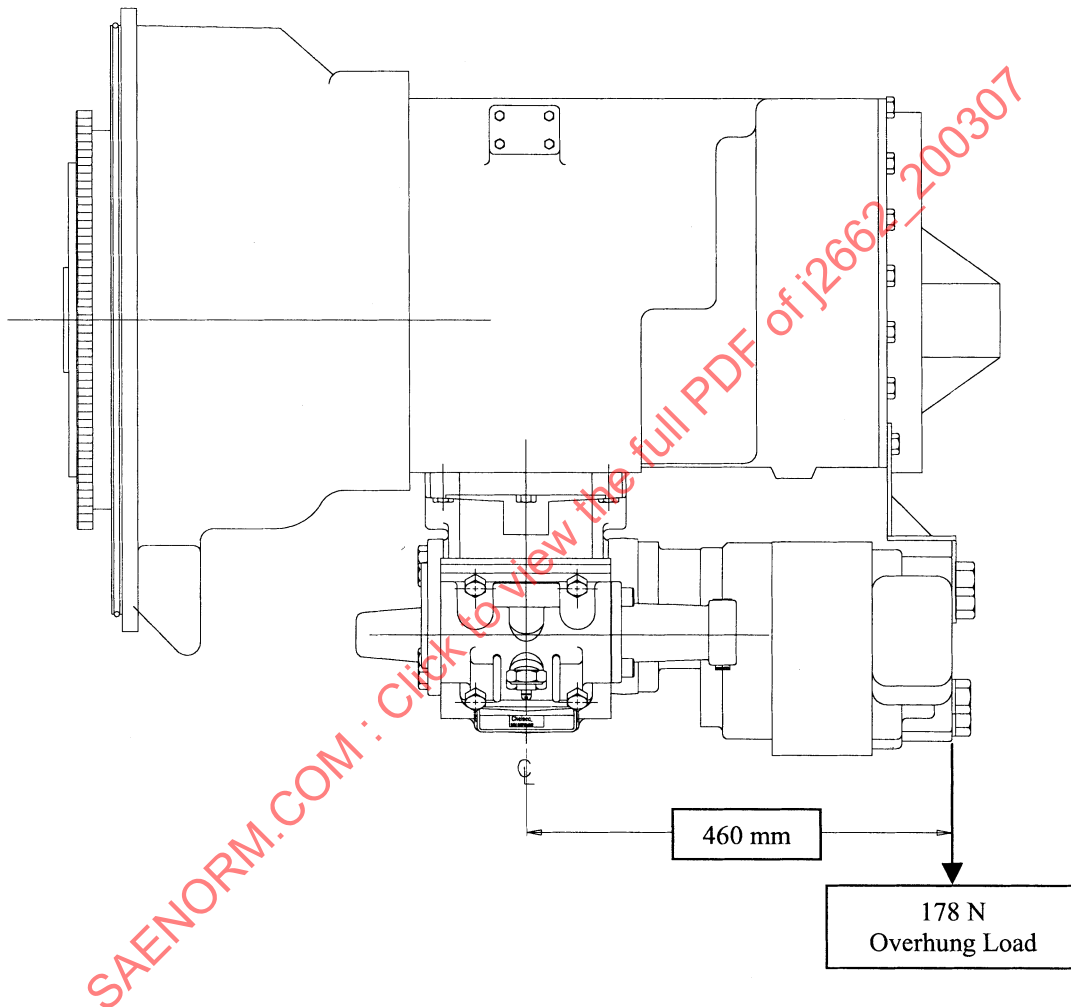

FIGURE 1—TRANSMISSION WITH PTO AND OVERHUNG LOAD
**3.4 Over Hung Loads**—Power Takeoffs frequently are used to support a direct mounted hydraulic pump or other auxiliary power equipment. Power takeoffs usually are required to be able to support a maximum over hung load of 178 N (40 lb) at a maximum distance of 460 mm (18 in) from the centerline of the transmission opening. Any load over 178 N (40 lb) regardless of distance from centerline of opening should be supported with a bracket attached to the transmission housing; and any load, regardless of weight, further than 460 mm (18 in) from the centerline of the transmission opening should be supported with a bracket attached to the transmission housing. See Figure 1.